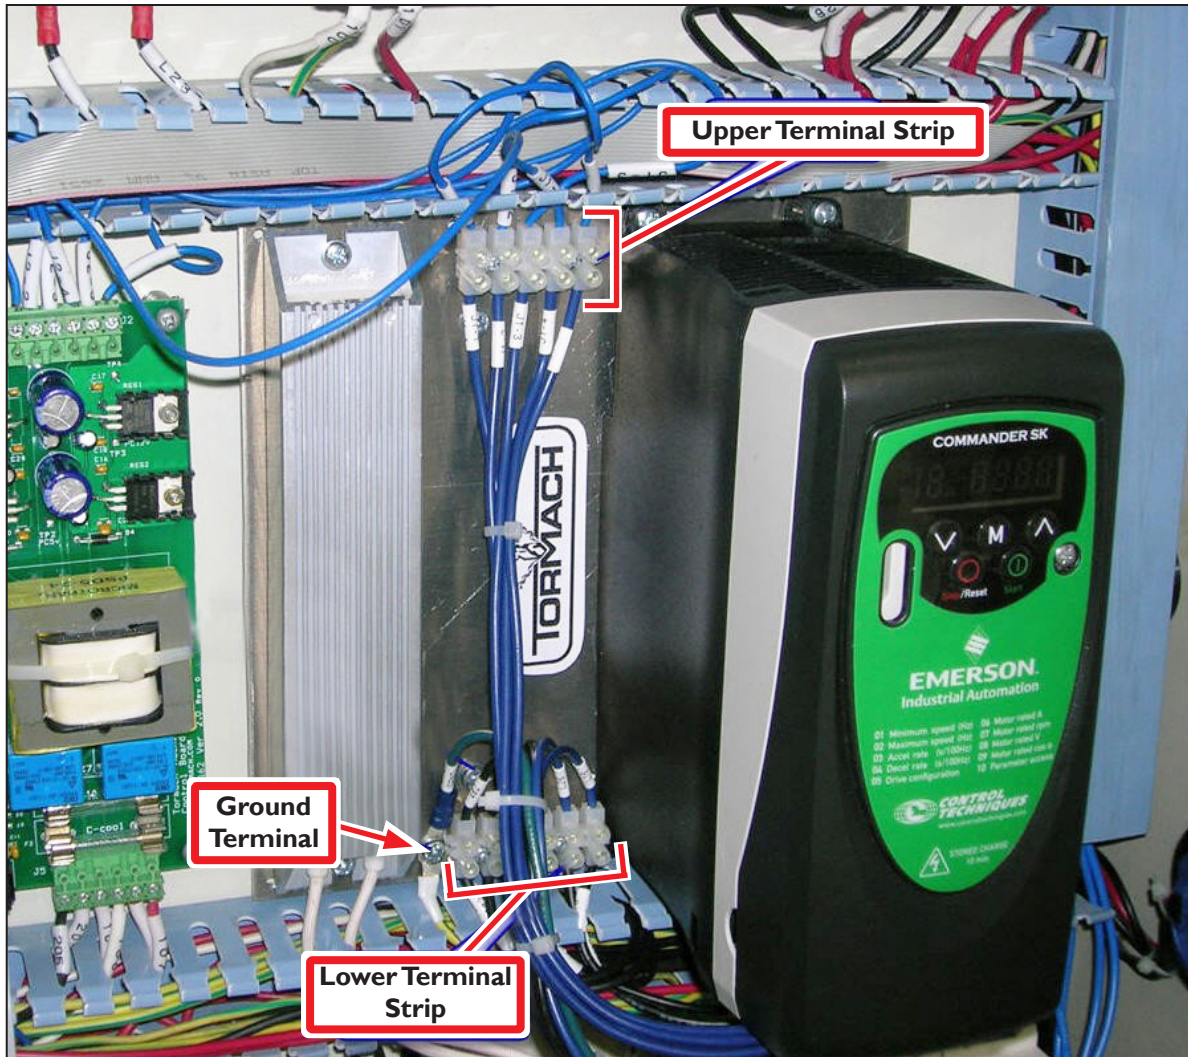

Figure 6
1. Identify wires from the upper wire trough; these connect to the upper terminal strip on the VFD motor drive assembly (see **Figure 6**).
3. Repeat Steps 1 through 2 for the lower wire trough and its corresponding wiring connections on the lower terminal strip (see **Figure 6**).
5. Using the included drawing (D40194), make the correct ground wire connection (see **Figure 6**).